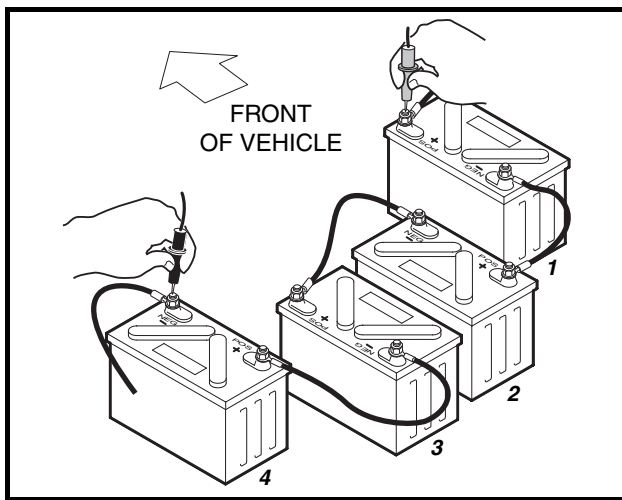

Figure 7-12 DS, DS Villager 4, 800, 810 and 850 Battery Configuration
- 4.1. **DS, DS Villager 4, 800, 810 and 850:** With a multimeter set to 200 volts DC, measure the voltage of the battery pack between the positive (+) post of battery no. 1 and the negative (–) post of battery no. 4 (**Figure 7-12, Page 7-17**).